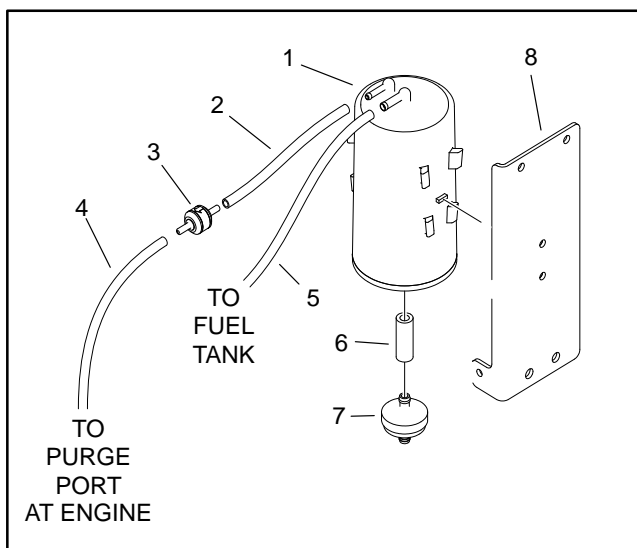

Figure 5
3. Note hose routing, cable tie and anchor clamp locations. Remove fuel evaporative control system components as needed (Fig. 5).
1. Install all removed EVAP components. Make sure that fuel hoses are not kinked after installation. Secure all hoses with hose clamps, anchor clamps and cable ties as noted. If hoses were removed from the carbon canister, check hose connections for correct system operation (Fig. 5).